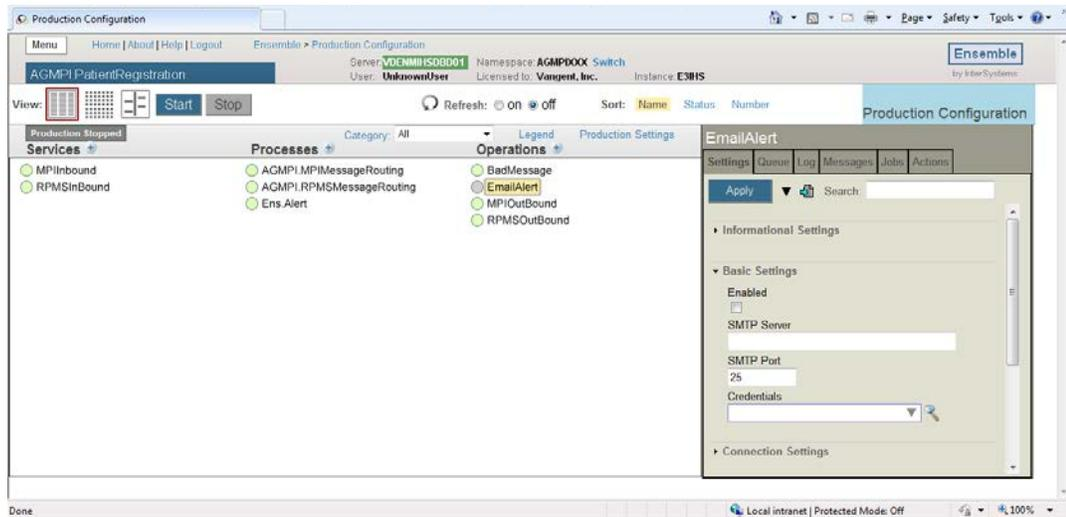

Figure 5-34: EmailAlert configuration
3. Click **EmailAlert** in the **Ensemble Configure Production** page to display the EmailAlert configuration settings in the **EmailAlert** pane, as shown in Figure 5-34.